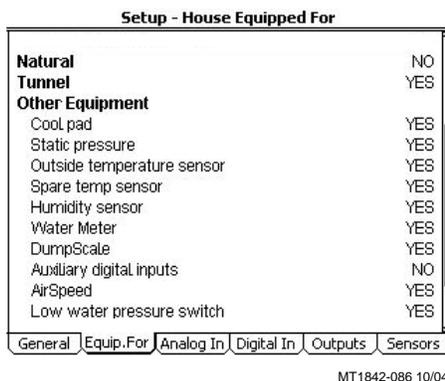

Figure 8. Navigation Buttons.
1. Press **BUTTON 13**. **Figure 8** appears in the display.